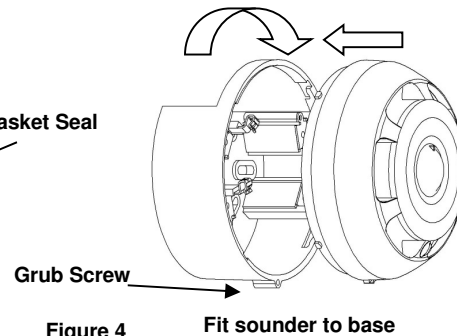

Figure 4
6. Fit the Head to the base in a Bayonet motion as shown in Figure 4. taking care not to trap the Gasket Seal when mounting.